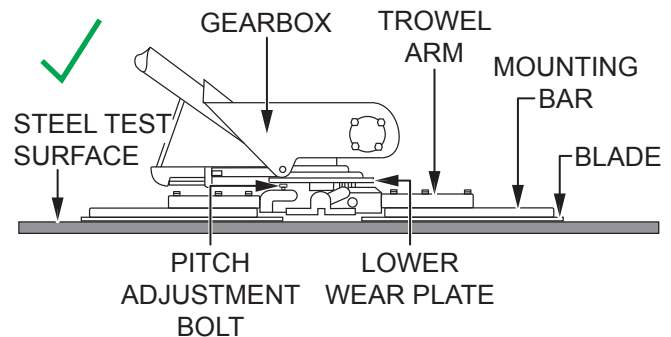

Figure 59. Blades Pitched Flat (Correct)
2. Pitch the blades as flat as possible (Figure 59). The pitch adjustment bolts should barely contact the lower wear plate (0.1-inch maximum clearance). All adjustment bolts should be spaced the same distance from the lower wear plate. If any one of the bolts does not make contact, adjustment is necessary.